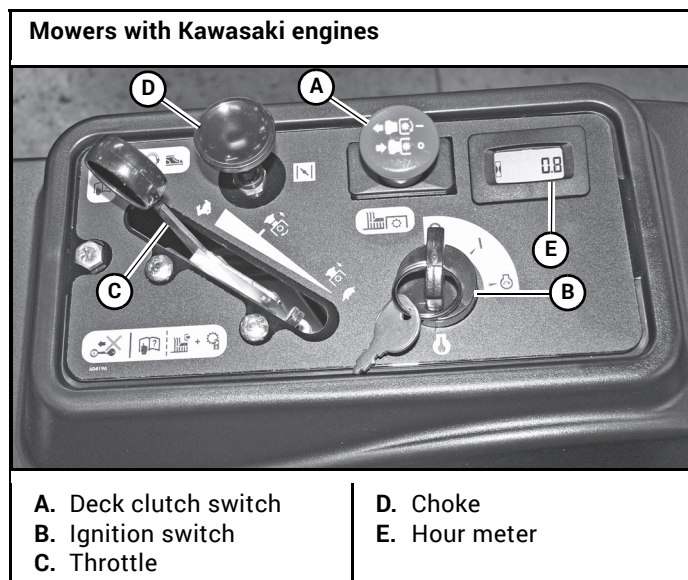
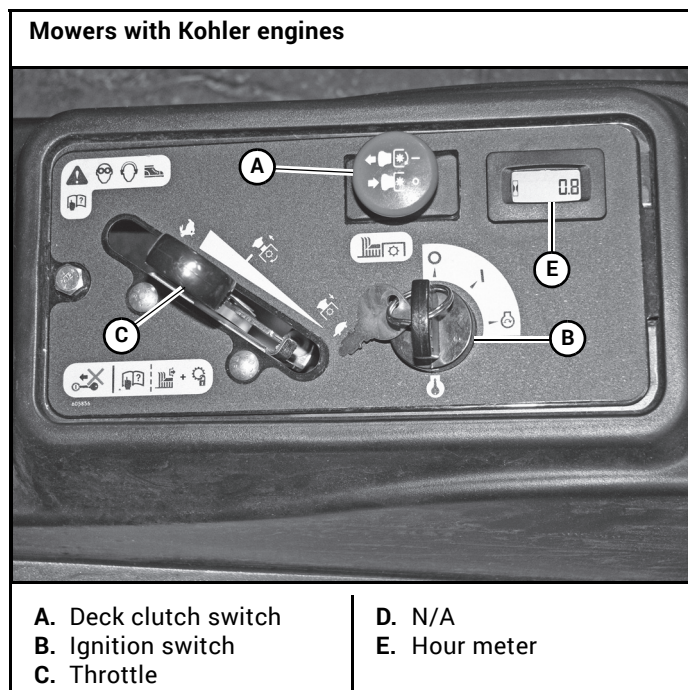

Figure 3-1
Figure 3-2
- A. **Deck clutch switch** (Figure 3-1 & Figure 3-2) — this switch engages the deck. Pull the switch up to engage and push the switch down to disengage the clutch.
- B. **Ignition switch** (Figure 3-1 & Figure 3-2) — a three position switch: “OFF”, “RUN”, and “START”. With the key inserted, rotate it clockwise to the “START” position; release the key when the engine starts, and the switch will automatically return to the “RUN” position
- C. **Throttle control** (Figure 3-1 & Figure 3-2) — a cable is linked to the engine throttle for controlling engine speed. Move the lever forward to increase engine rpm, move the lever rearward to decrease engine rpm.
- D. **Choke control (if equipped)** (Figure 3-1) — a cable is linked to manually operate the engine choke. When the lever is in the down position, the choke is in the “OFF” (run) position. When the knob is pulled up, the choke is in the “ON” (start) position. **Do not** operate the machine in the “ON” (start) position.
- E. **Electronic hour meter** (Figure 3-1 & Figure 3-2) — registers 1/10 hour increments up to 9,999.9 total hours. Connected to the ignition switch, the meter records the accumulative time while the ignition key is switched to the RUN position.